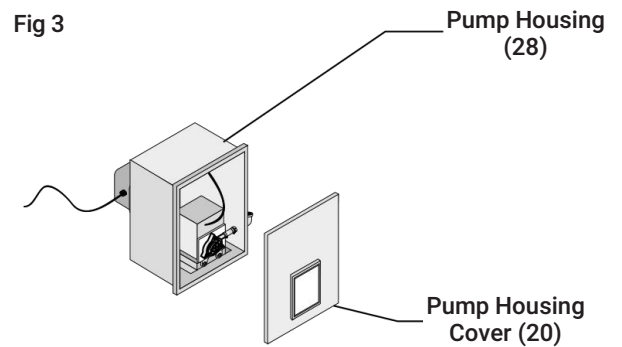

Fig 4
7. Connect the Flexible Pipe (24) to the Elbow (29) (Fig 4).